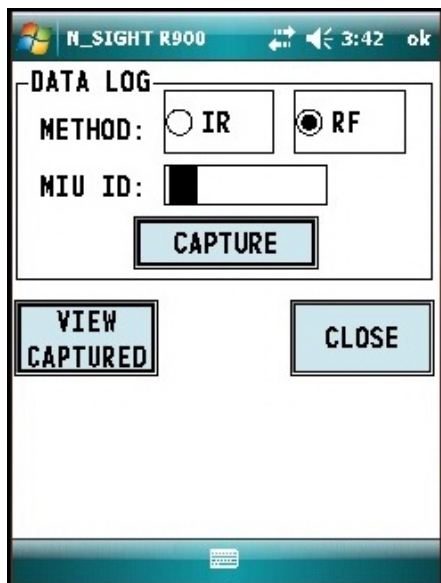

Figure 52 – L900 MIU ID Entry
3. Select **RF** and type the L900 MIU ID. See Figure 52.